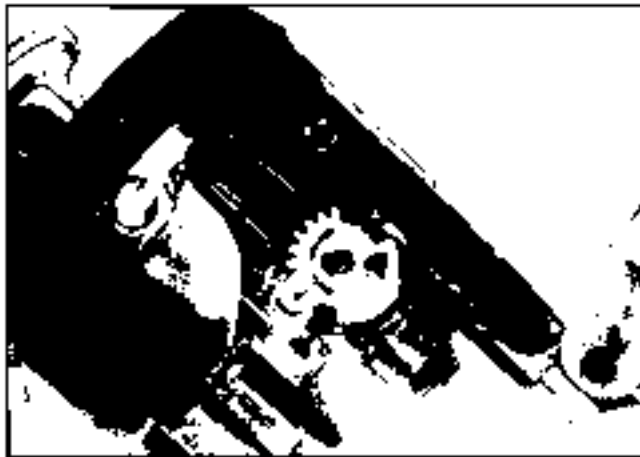

Fig. 9-40 Installing Lock Bolt to Sector
5. Install lock bolt and engage with sector cam surface (Fig. 9-40).
6. Install rack and spring. Block tooth on rack to engage block tooth on sector (Fig. 9-40).